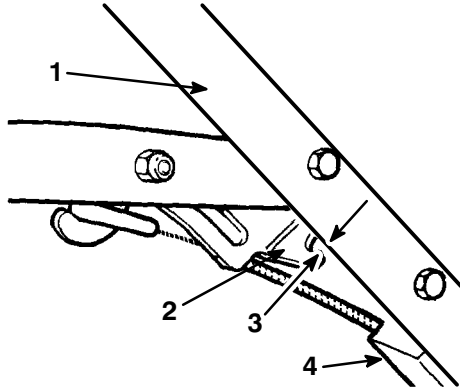

Figure 34
- A. Loosen the nut on the cable bracket (Fig. 34).